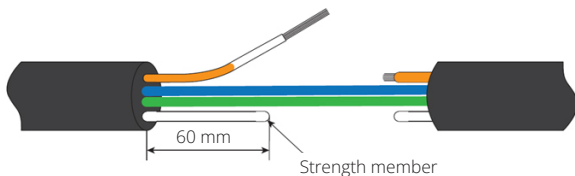

Figure 1-5: Cut the strength member
- 4 Cut the strength member of the cable from the stripped cable sheath to 2.4 in. (60 mm) to fix the cable (Figure 1-5).